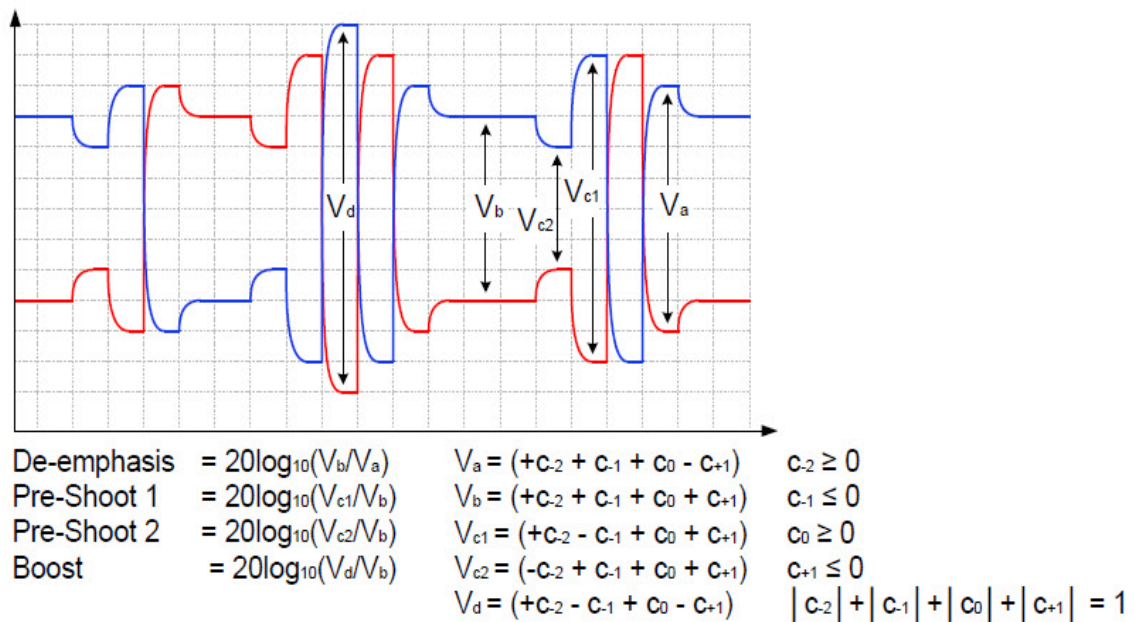

Figure 31 Waveform measurement points for preshoot and de-emphasis
64.0 GT/s PCIe signaling must support the full range of presets given in Table 8-2 (PCIe Base Specification Revision 6.0). Presets are defined in terms of ratios, relating the pre-cursor and post-cursor equalization voltages. The pre-cursor (V_c) is referred to as pre-shoot, while the post-cursor (V_b) is referred to as de-emphasis. This convention permits the specification to retain the existing 2.5 GT/s and 5.0 GT/s definitions for Tx equalization, where only de-emphasis is defined, and it allows preshoot and de-emphasis to be defined such that each is independent of the other. The tolerances in Table 8-1 (PCIe Base Specification Revision 6.0) also apply to 2.5 and 5.0 GT/s de-emphasis. The maximum swing, V_d , is also shown to illustrate that, when both c_{+1} and c_{-1} are nonzero, the swing of V_a does not reach the maximum as defined by V_d . The high frequency nature of PCIe signaling makes measurement of single UI pulse heights impractical. Consequently all amplitude measurements are made with low frequency waveforms as shown in Figure 31.
- 13 Computes their equalization voltages by using Matlab, and then calculates equalization ratios by using the formulae stated in Figure 31 (Figure 8-6 of the spec).